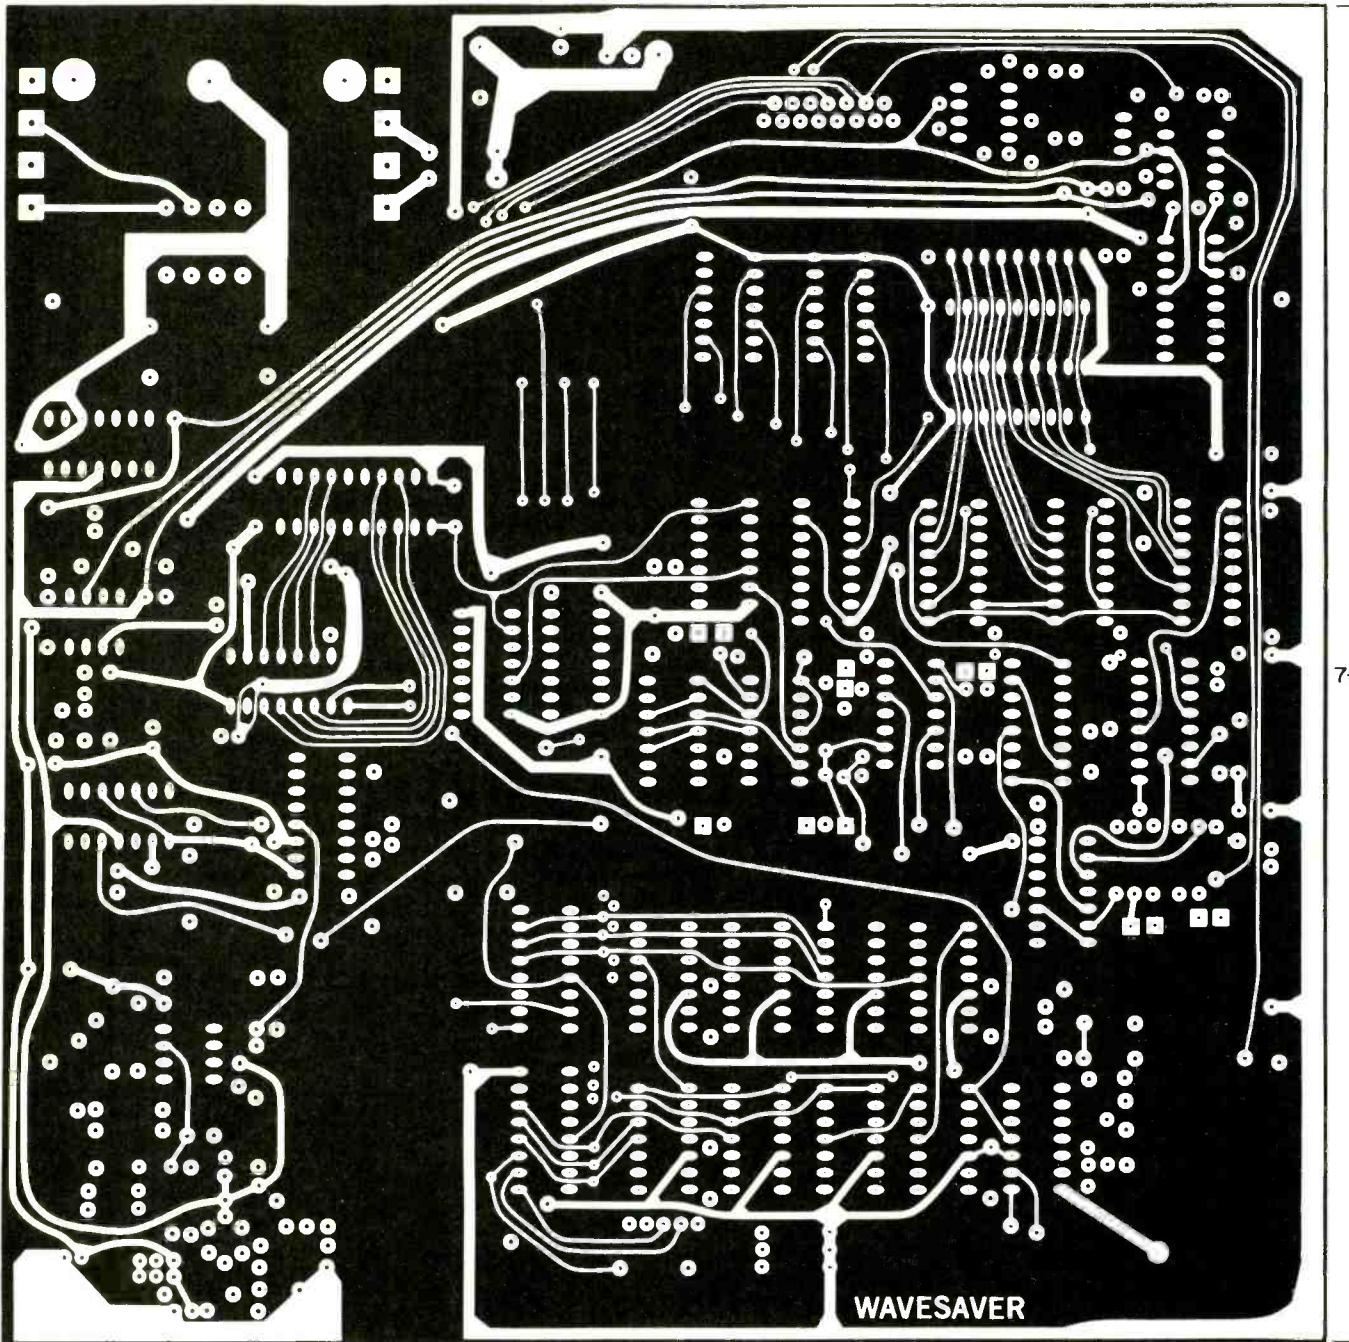
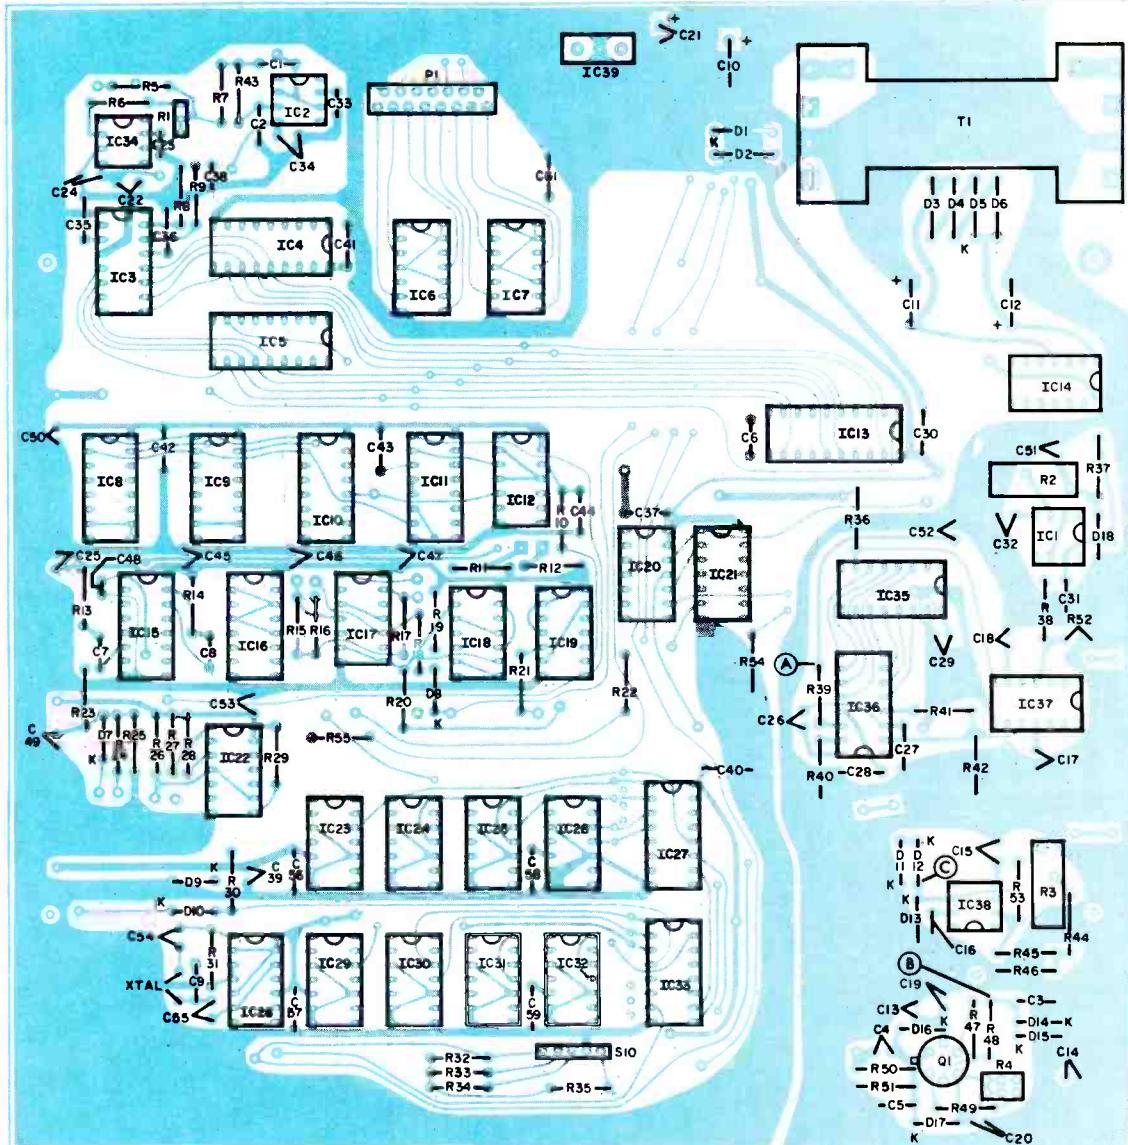
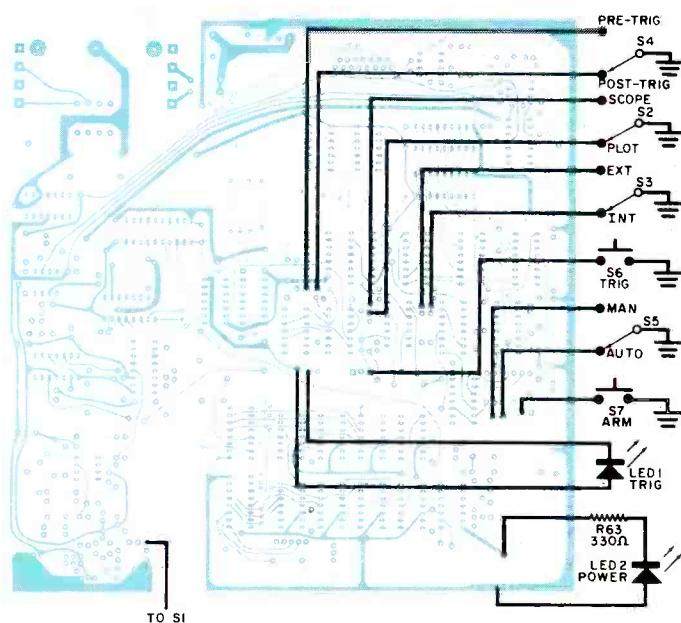

Fig. 11. Reduced pattern for foil side of the double-sided pc board. Note correct size.
Fig. 13. Component layout for the pc board.
Fig. 14. Connections to external components from the pc board.
**Construction.** It is recommended that the Wavesaver be constructed using the dual-sided pc board shown in Figs. 11 and 12. Component installation is shown in Fig. 13, and external elements are connected as shown in Fig. 14.
To set the reference level, connect the dc voltmeter between test point A (Fig. 13) and ground. Adjust  $R2$  for 9.98 volts (given as 9.98 on the schematics to com-